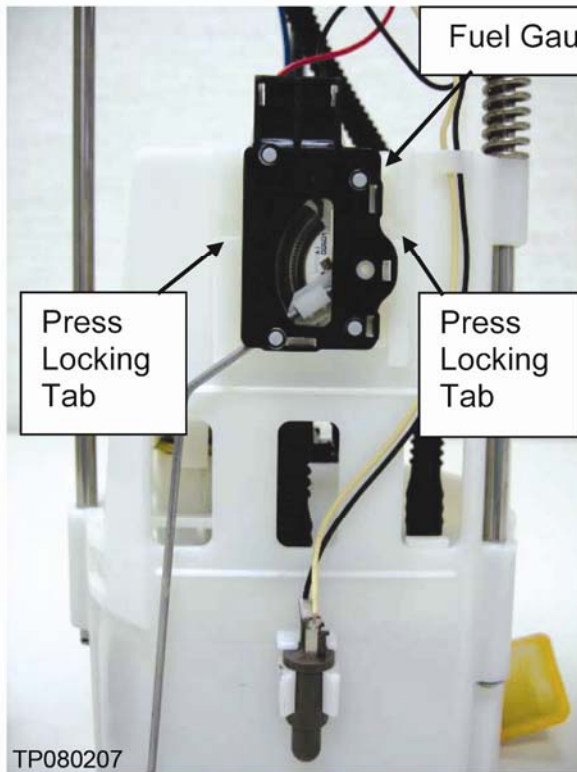
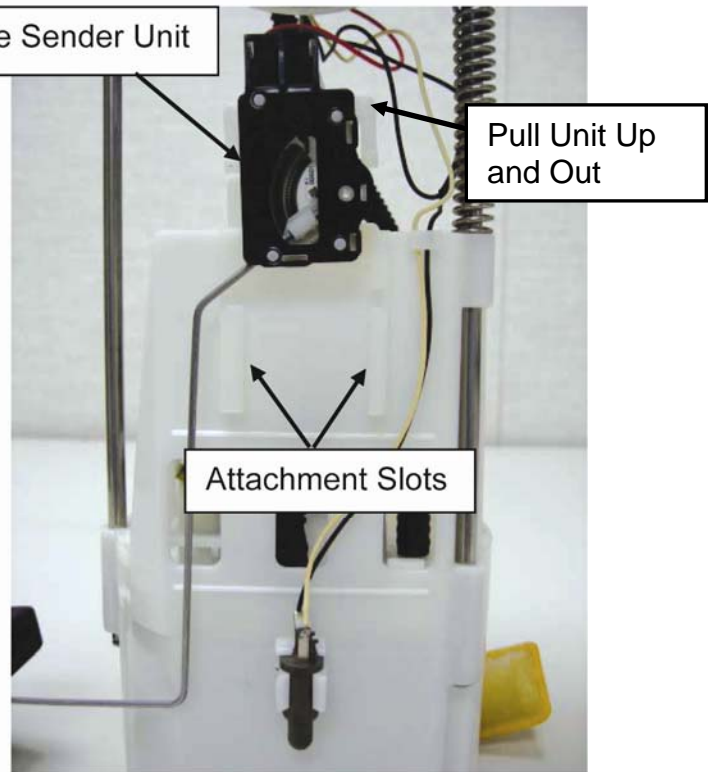
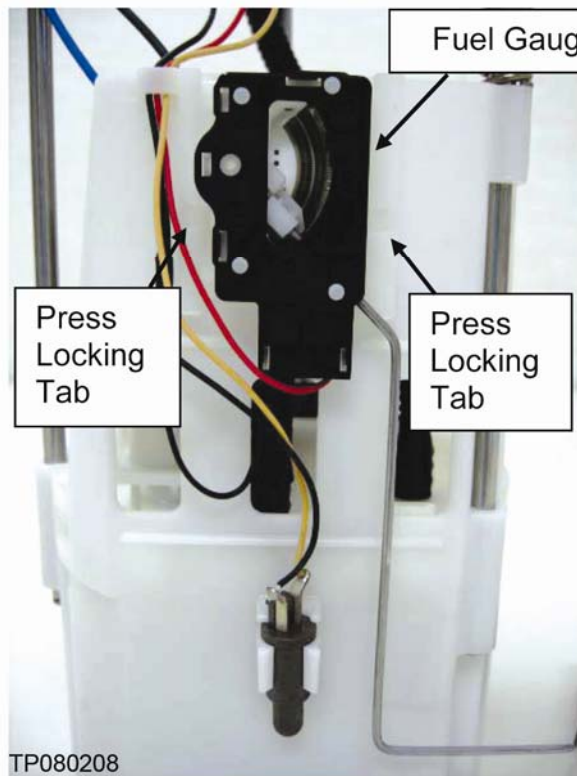
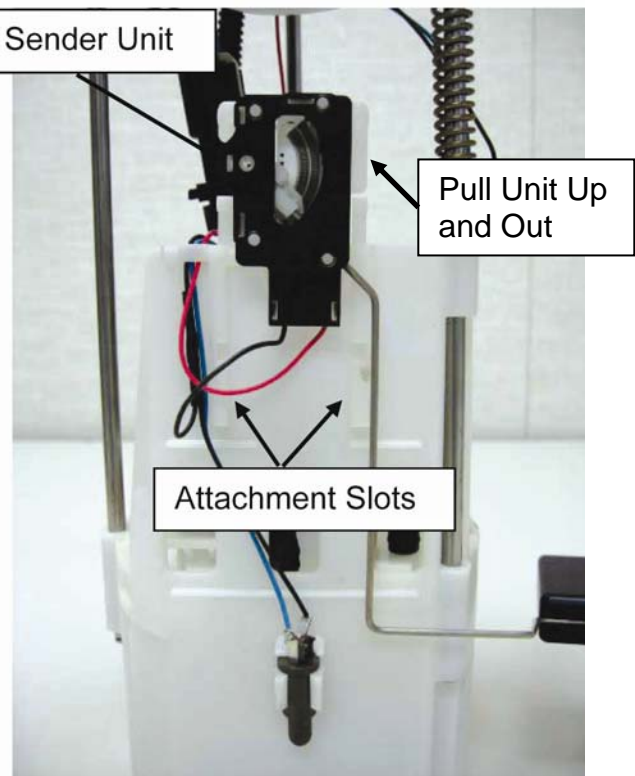

Figure 5
Figure 6
Figure 7
Figure 8
- a. First, press IN on the two locking tabs on either side of the Fuel Gauge Sender Unit (see Figure 5 for Type A **or** Figure 7 for Type B, next page).
- b. Then, pull the Unit UP and OUT of the attachment slots (see Figure 6 for Type A **or** Figure 8 for Type B, next page).
**NOTE:** Figure 5 and Figure 6 are applicable to Type A float arm only.
**NOTE:** Figure 7 and Figure 8 are applicable to Type B float arm only.